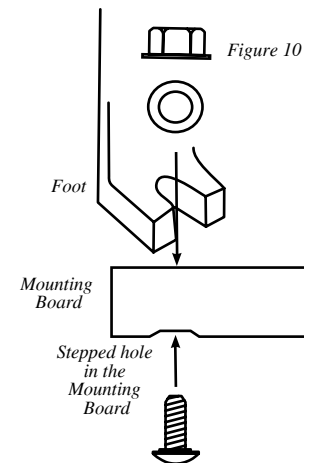

Figure 10
3. Secure the **Mounting Board** to the **Feet** with the **Carriage Bolts, Flat Washers** and **Hex Flange Nuts** (Figure 10). Use a 10-mm wrench or an adjustable wrench to tighten the **Hex Flange Nuts**.